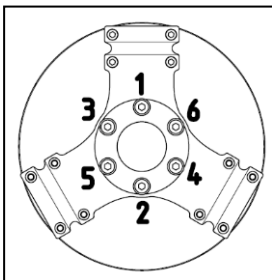

Fig. 1- Sequence of tightening attachment screws
Mount on engine flange backplate (pos. 4) and afterward propeller hub with blades (pos. 1, 2, 3). Attach the propeller using 6 screws (pos. 9) with washers (pos. 10) and self-locking nuts (pos. 12). Tighten the nuts using 22 Nm in the sequence as shown in Fig.1.
On spacer attach backplate (pos. 4) and then hub with blades (pos. 1, 2, 3). Attach the propeller using 6 screws M8 (pos. 9) with washer's (pos. 10). Tighten the nuts using 22Nm in the sequence as shown in Fig.1.